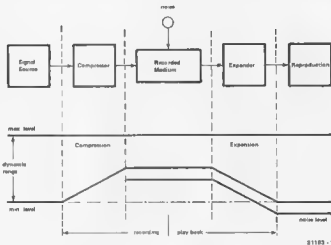

Figure 1. What the compander consists of and what it does to the dynamic range.
Figure 1. The photograph shows a single chip high-speed 6-bit analogue to digital converter manufactured using NMOS technology. The maximum clock frequency is around 20 MHz (1) while the device dissipation is a mere 300 mW.
The internal view of the VLSI A/D converter is shown in figure 1. Until very recently similar high speed analogue to
As can be seen from figure 1, the circuit diagram of the audio power meter could hardly be called complex. Very few components are needed to construct the complete unit. The circuit would even be simpler if the requirement was for a logarithmic rather than a linear scale.
Figure 1. The potential dividers R1/R2/R4 and R3/P1/R4 ensure that the voltage across the bridge rectifier never exceeds about 1 V. The diodes will then operate in the non-linear area of their I/V curves so that the current through them will be exponential in relation to the voltage across the bridge.
The first serious attempt to suppress noise by means of electronic circuits is attributed to Dolby. Basically, the system works as any other of its kind. The block diagram in figure 1 gives a general idea of what happens within a complete recording and playback channel. During recording the dynamic range of the signal is compressed and expanded again when the tape is played back. The term dynamic range is very important in this respect, extending from the loudest to the softest signal to be recorded. Peak modulation is usually indicated as 0 dB. Thus, the lowest
The drawing in figure 1 gives a simplified version of a noise reduction system. Below the block diagram the drawing shows what happens to the dynamic range during various stages. During recording the level of the input signal is lowered to a value the tape can accept (including a certain safety threshold). During playback the dynamic range is 'retranslated' into the original value by the expander. This maintains the noise level beneath the lowest signal level recorded, so that (theoretically) it should no longer be audible. The entire noise suppression system is called